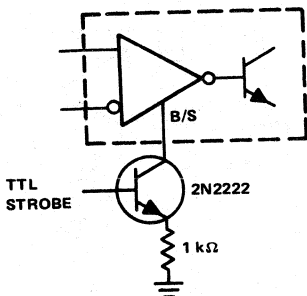

FIGURE 13. STROBING
6. The strobe should not be shorted to ground; it should be current driven at -3 to -5 mA, e.g., see Figures 13 and 27.